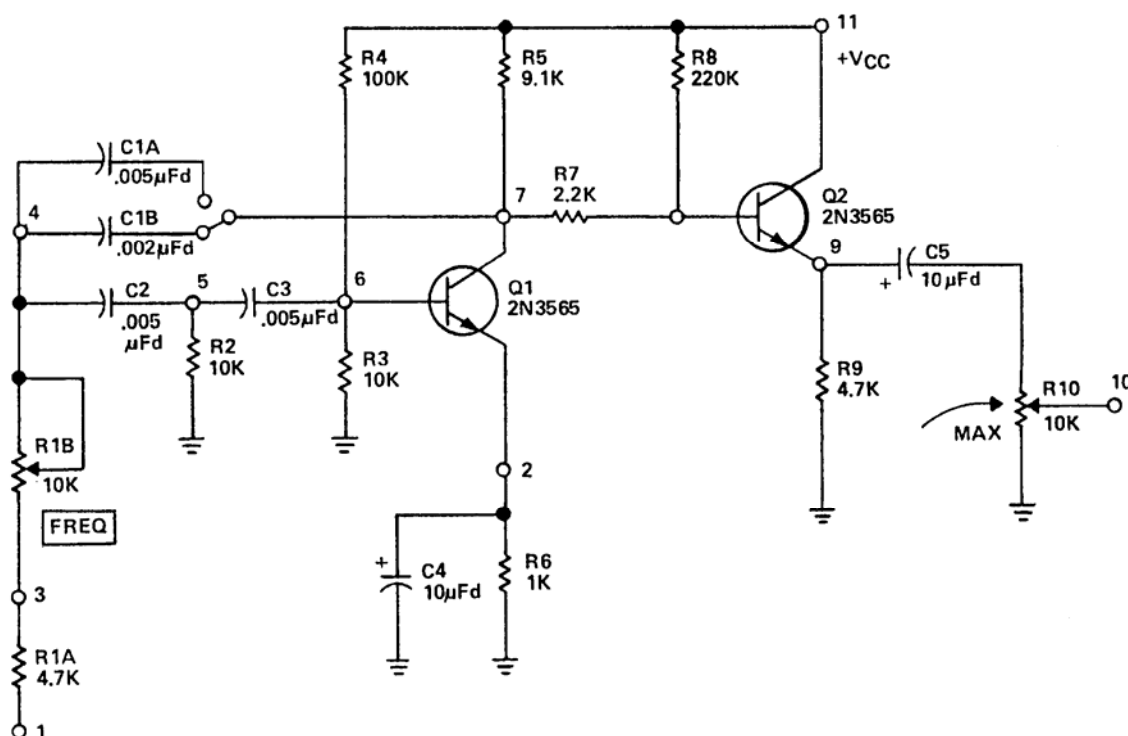

Figure C-3. Phase Shift Oscillator Circuit
a. If the phase shift oscillator has no output signal, there will be no signal present at any point within the circuit because it develops its own signal with only a DC voltage applied. However, the circuit in Figure C-3 has a second stage, so signal tracing is necessary to determine which stage is malfunctioning. There is no need for using external triggering when troubleshooting because the only interest is the presence or absence of a signal. When the defective stage is located, troubleshooting continues with voltage testing.